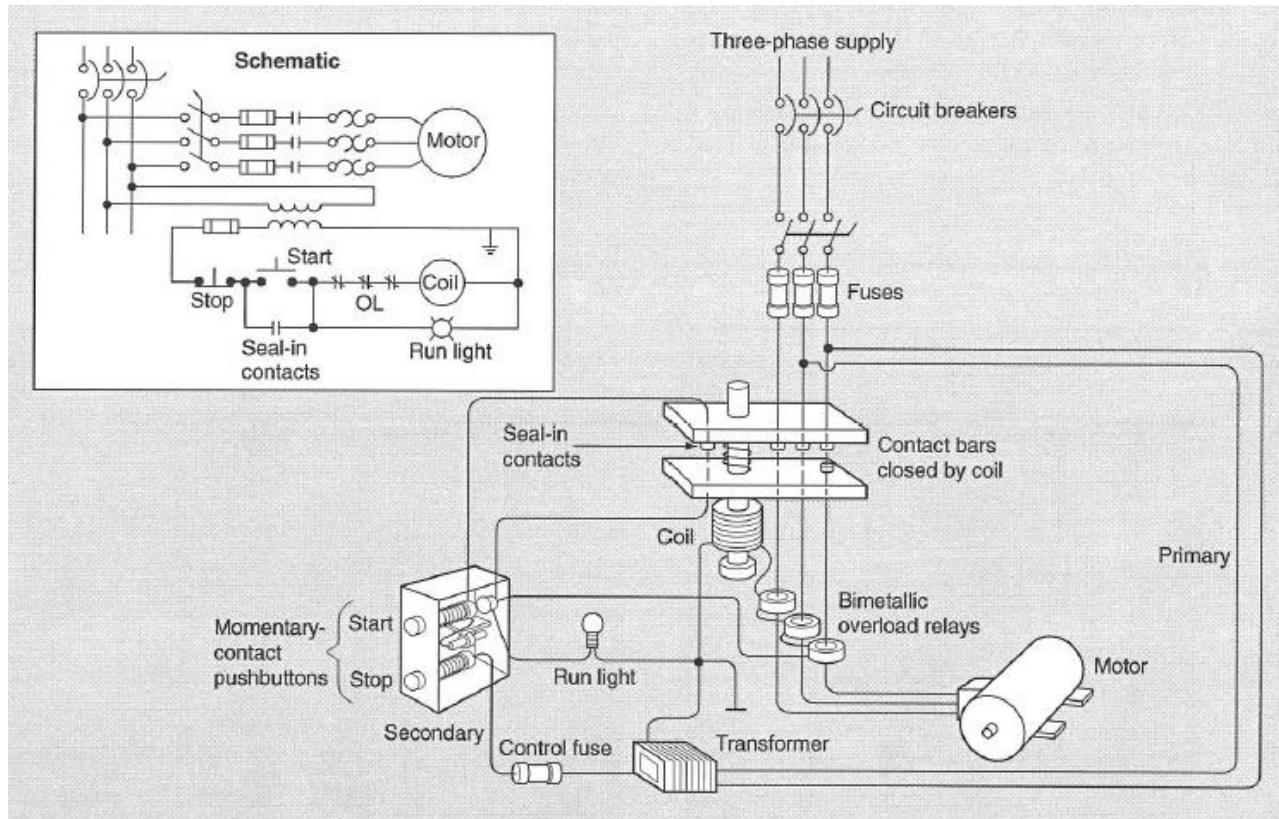

Figure 6.7: Protected Three-Phase Motor Circuit
- 6-47 **Thermal overload relays.** Most motor burnouts are caused by currents that exceed the motor's rating. In the thermal OL relay, excessive current raises the temperature of a heater element. The increased temperature actuates the relay, which trips a latch and opens the motor-control circuit to disconnect the motor from the line. A simple diagram of a protected motor circuit is shown in Figure 6.7 on the following page. The schematic diagram shows how the parts function together.